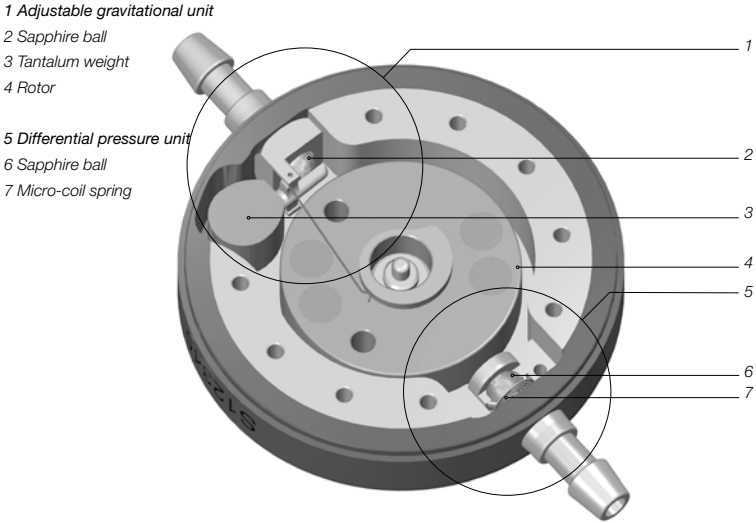

Fig. 1: Cross section of M.blue
M.blue is a valve made from titanium. It consists of an adjustable gravitational unit and a differential pressure unit (Fig. 1). The adjustable gravitational unit (1) in the proximal part of the valve contains a tantalum weight (3), which holds a sapphire ball in the ball seat via a lever (2). Depending on the body position of the patient, the influence of the tantalum weight on the sapphire ball and thus the valve opening pressure changes. Via a rotor (4), the pretension of the torsion spring connected to the lever can be changed through the skin. This way, the influence of the tantalum weight on the sapphire ball can be influenced and thus the valve opening pressure can be adjusted.